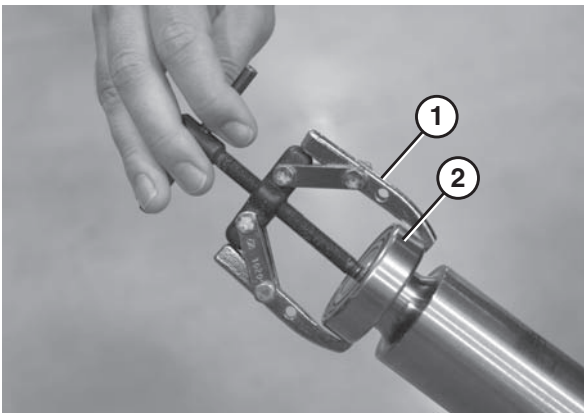

Figure 90
2. Using a bearing removal tool (**Figure 90, item 1**), remove the bearing (**Figure 90, item 2**).